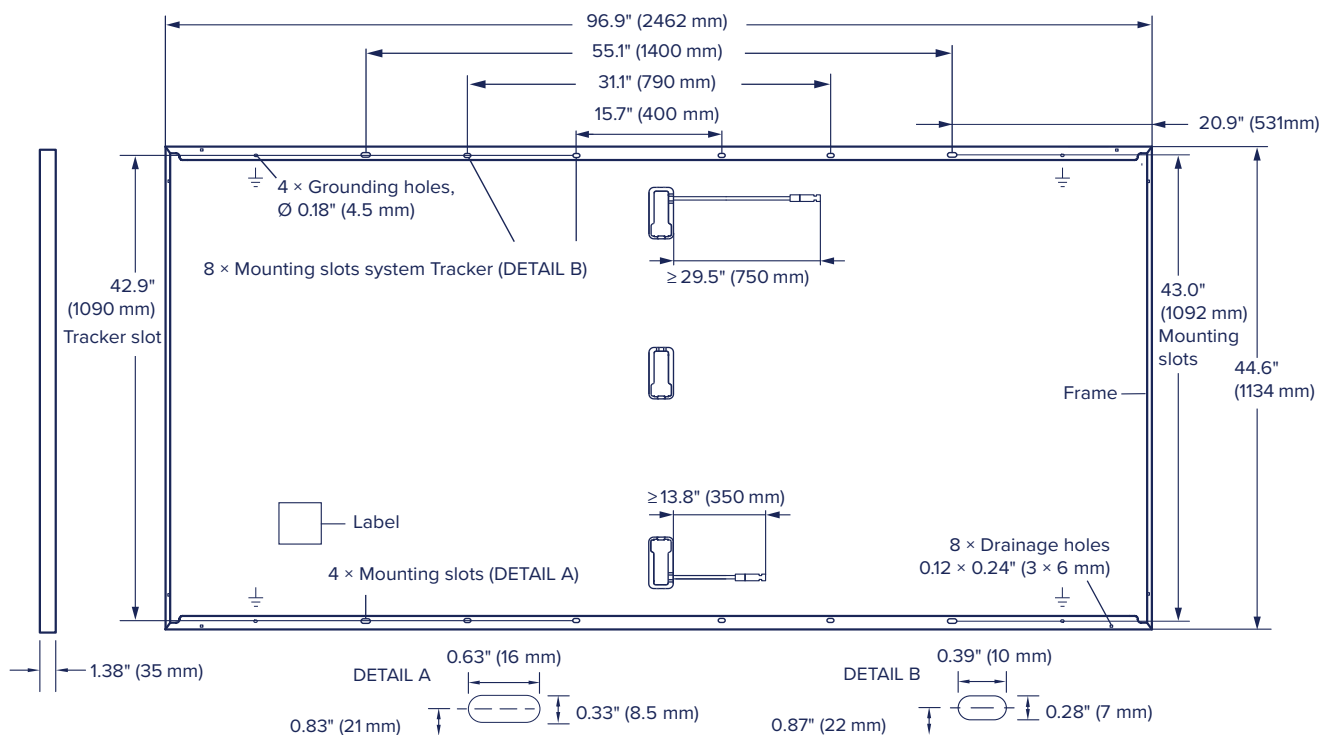

Fig. 1: External dimensions and components for Q.TRON XL-G2.3/BFG
- Clamp position: center of contact area in the axis of the mounting slots (Detail A, Fig. 1) or closer to the hollow chamber.